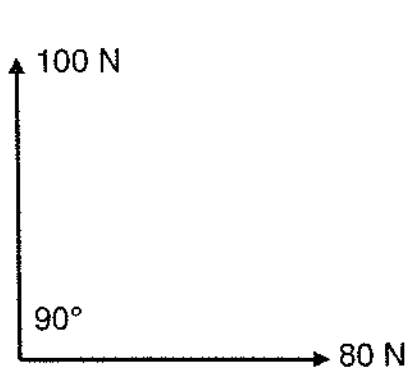
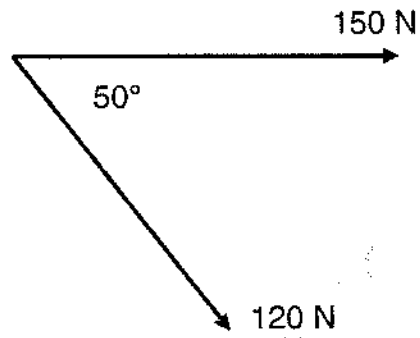

FIGURE 1
FIGURE 2
- 5.3 Calculate the magnitude and direction of the resultant of the two forces shown in FIGURE 1, ADDENDUM A (attached). State the angle between the resultant and the 80 N force.
- (No marks will be allocated for a graphical solution.) (8)
- 5.4 Determine, by means of the parallelogram of forces, the magnitude and direction of the equilibrant of the concurrent coplanar forces shown in FIGURE 2, ADDENDUM A (attached). (6)